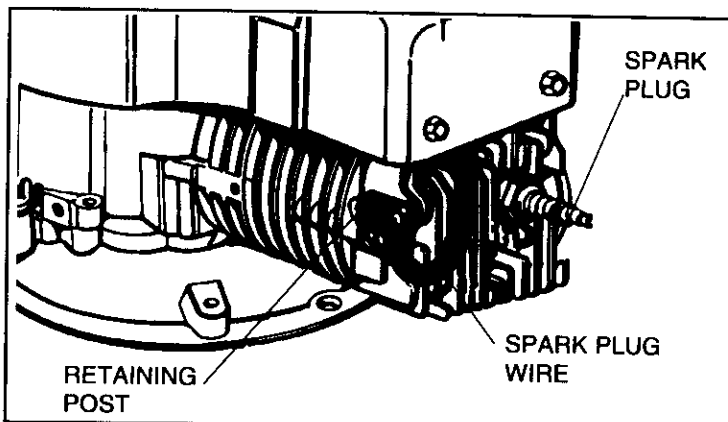

Figure 6
DISCONNECT SPARK PLUG WIRE FROM SPARK PLUG AND ATTACH IT TO RETAINING POST (see Figure 6 on Page 3).
① See mower manufacturer's instructions.
② AFTER ENGINE IS STOPPED:
- ⚠ A. DISCONNECT SPARK PLUG WIRE FROM SPARK PLUG AND ATTACH IT TO RETAINING POST (see Figure 6).**
- ⚠ A. DISCONNECT SPARK PLUG WIRE FROM SPARK PLUG AND ATTACH IT TO RETAINING POST (see Figure 6)**